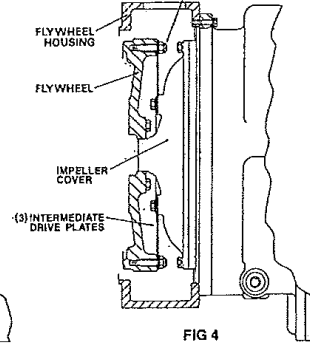

FIG 4
7. Install drive plate attaching screw and washer. Snug screw but **do not tighten**. Some engine flywheel housings have a hole located on the flywheel housing circumference in line with the drive plate screw access hole. A screwdriver or pry bar used to hold the drive plate against the flywheel will facilitate installation of the drive plate screws. Rotate the engine flywheel and install the remaining seven (7) flywheel to drive plate attaching screws. Snug screws but do not tighten. After all eight (8) screws are installed torque each one 26 to 29 ft. lbs. torque [35 - 39 N·m]. This will require tightening each screw and rotating the engine flywheel until the full amount of eight (8) screws have been tightened to specified torque.
*Does not apply to units having 3 intermediate drive plates. See Fig. 4.